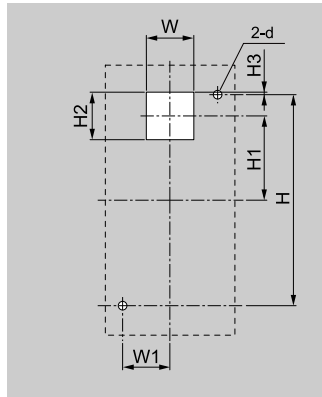

Figure 2.9 External/Face Mount Enclosure Panel Cut-Out Dimensions
1. Use the dimensions in Figure 2.9 and Table 2.4 to cut an opening in the control panel for the keypad.